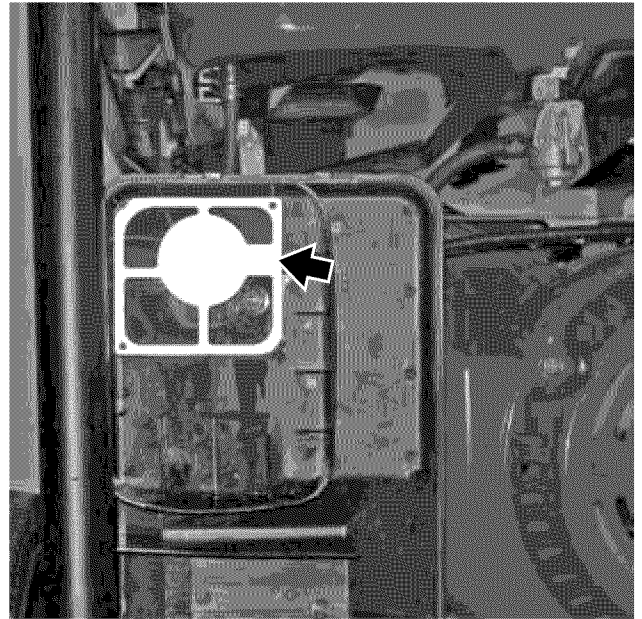

Figure 37 – Position of Metal Backfire Plate
6. Pay special attention to the metal backfire plate in the upper left corner of the air cleaner assembly. This metal plate must be in its proper position when installing the foam air filter element (see Figure 37).
11. Return the air filter element to its position in the air cleaner assembly box. Make sure the metal backfire plate is in its proper position (see Figure 37).